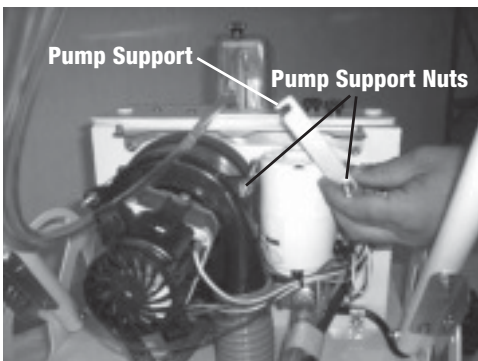

Figure 3: Loosening pump support
3. Loosen pump support nuts and push pump support up (fig. 3).